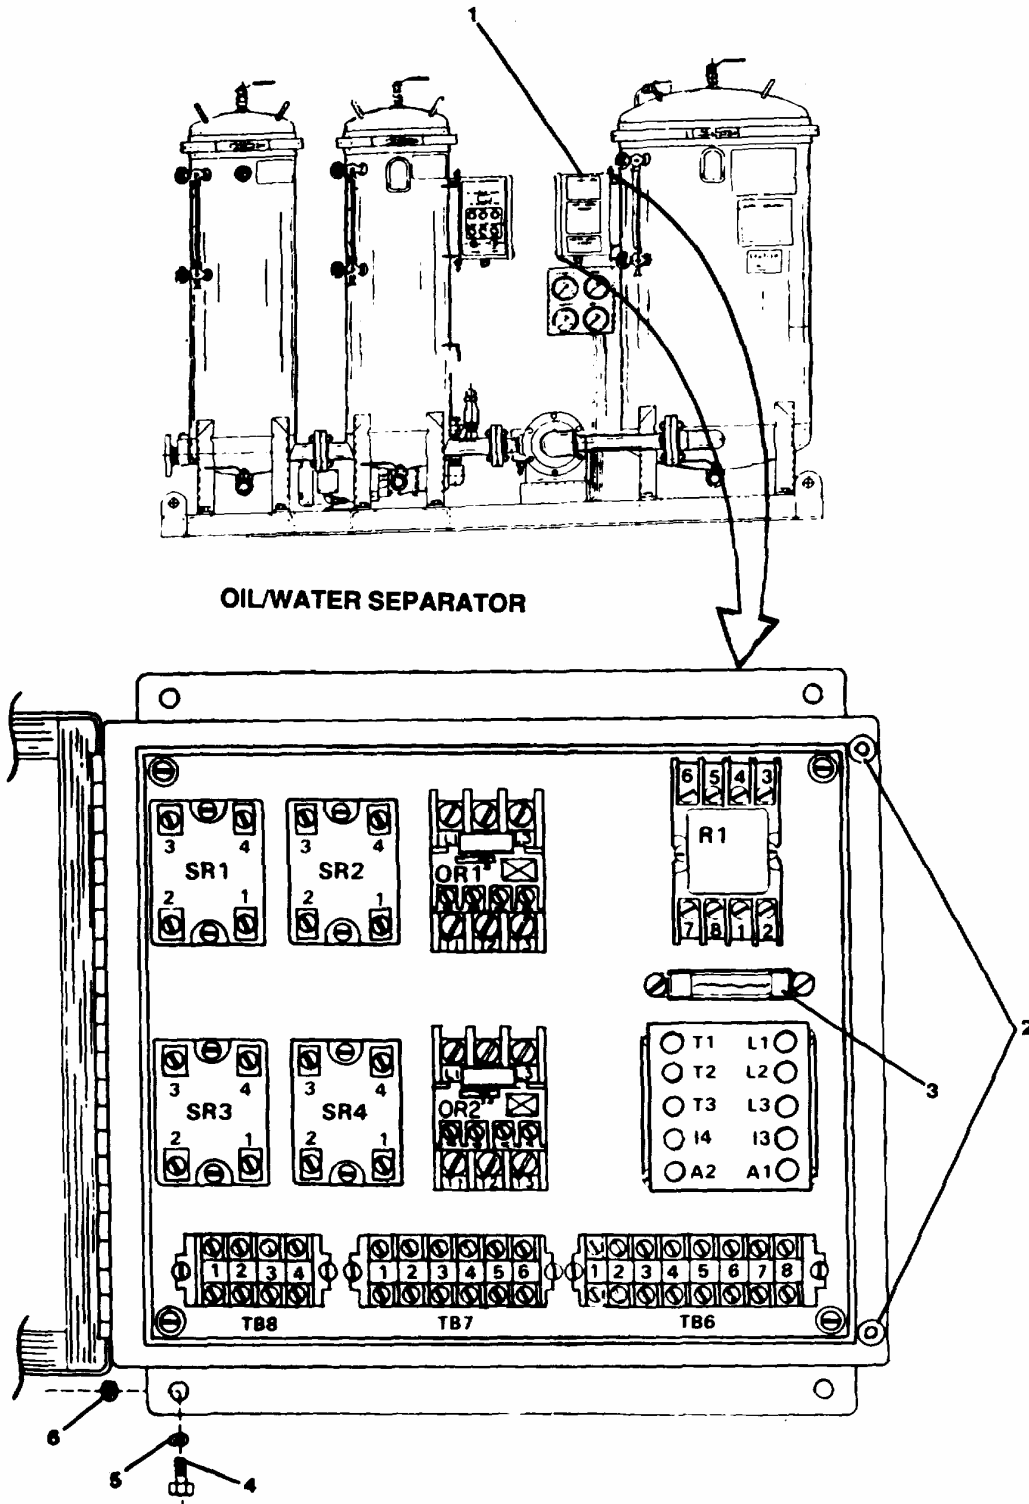

Figure 2-14. Motor Control Box Assembly.
**2-26. Replace/Repair Motor Control Box Assembly. (FIGURE 2-14).**